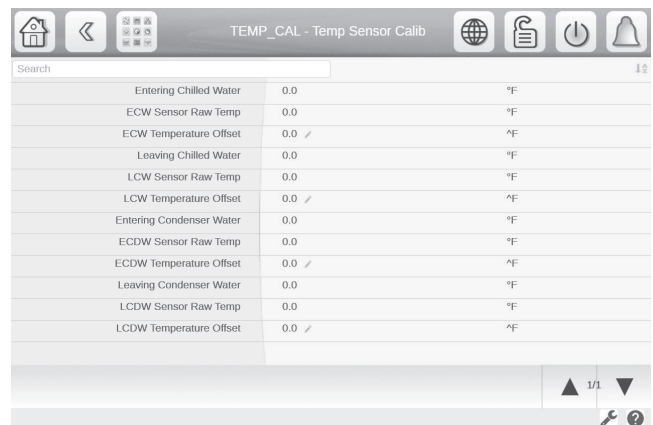

Fig. 62 — Temp Sensor Calib Screen, Page 1
5. In the Temp Sensor Calib screen, enter the temperature offset for the appropriate sensor as calculated in Step 4. See Fig. 62.